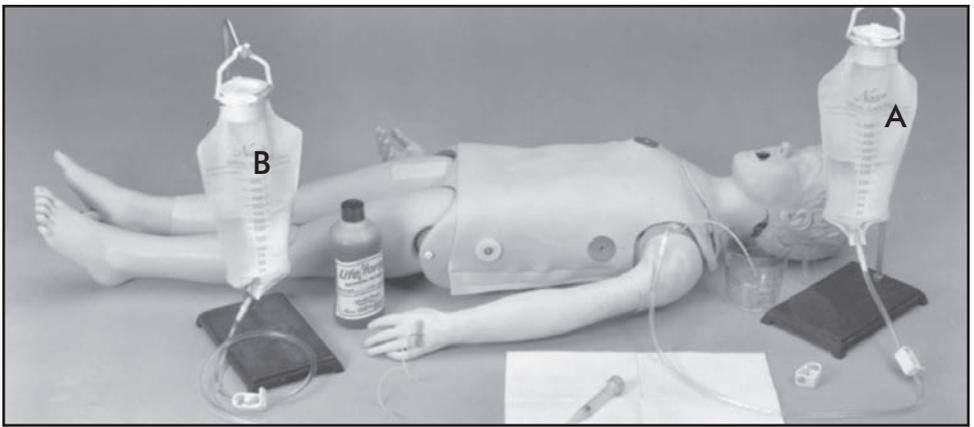

Figure 2
1. Close clamp at end of both IV bag tubes, then fill with water (distilled water is recommended), and hang not more than 18" above the arm (see Figure 2).